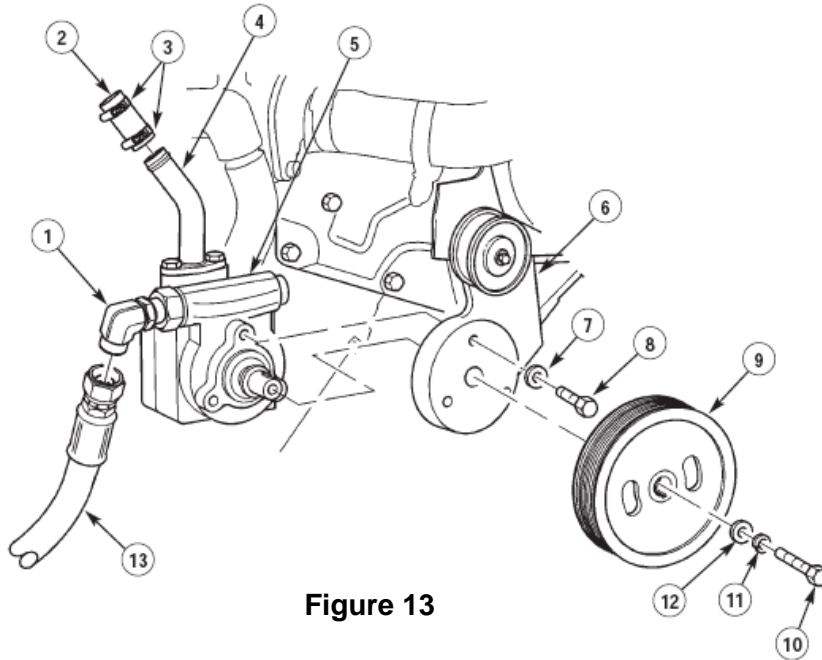

Figure 13
m. Removal of Power Steering Pump Pulley. TM 9-2320-387-24-1, Chapter 8, Task Para 8-23.1, Page 8-64.2 and **Figure 13** contained in these instructions.
(1) Remove screw (10), spacer (12), lock washer (11), and pulley (9) from power steering pump (5). Discard lock washer (11).